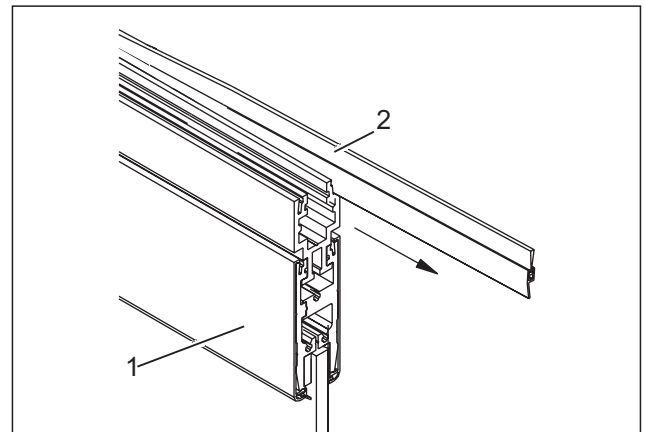

Fig. 34 Removing the brush seal
3. Remove brush seals (Fig. 34/2) from the door rail (Fig. 34/1).